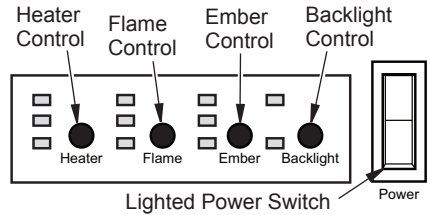
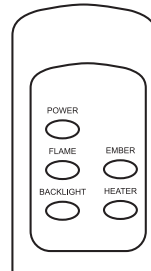

Figure 8 - Controls For Electric Fireplace
Figure 9 - Remote Control For Electric Fireplace
The controls (see Figure 8) are located behind hinged control panel door. If using heater, control panel door will be hot during and immediately after operation. Open door by pulling control panel door on left and right side.
1. Connect fireplace to power source. Turn on lighted power switch (see Figure 8).
2. Adjust Flame/Ember/Backlight/Heater to desired settings using the control pad on fireplace (Figure 8) or remote control (Figure 9). Figure 10, page 8, shows fireplace settings available. Default settings are circled. Press control pad or remote control buttons once and release to adjust settings.